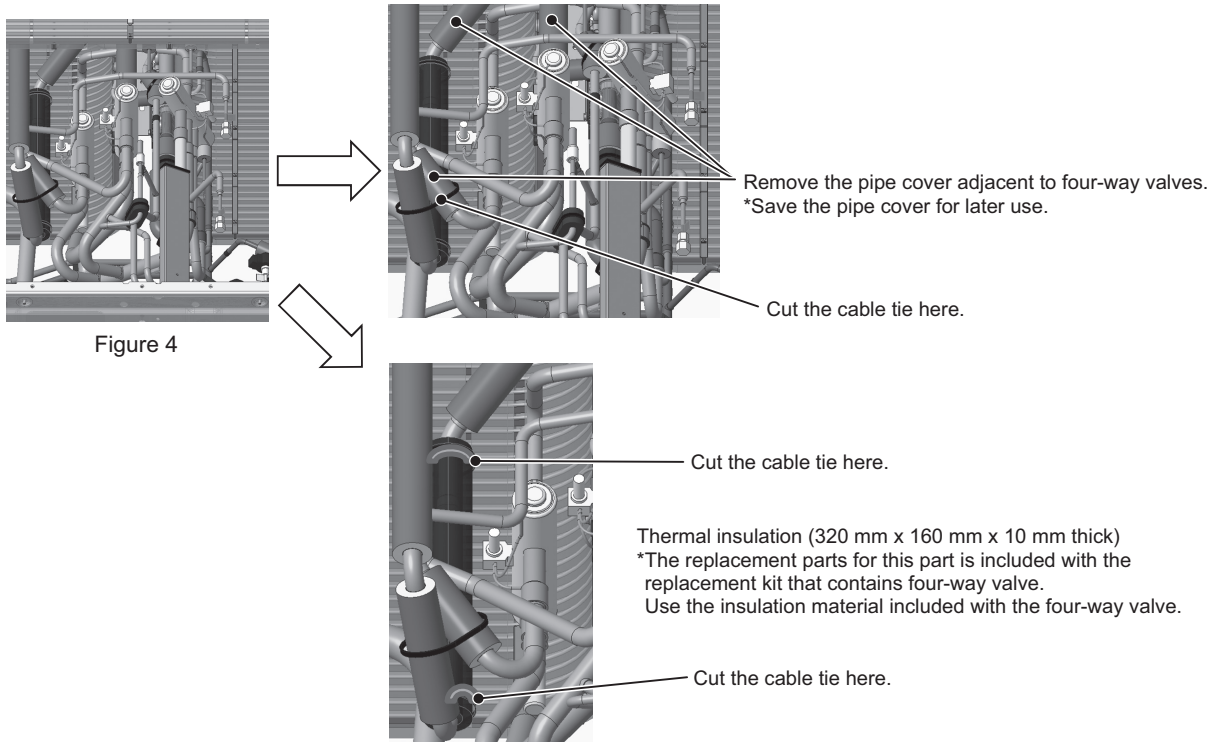

Figure 4
(3) Remove the pipe cover and thermal insulation adjacent to the four-way valves. (See Figure 4.)